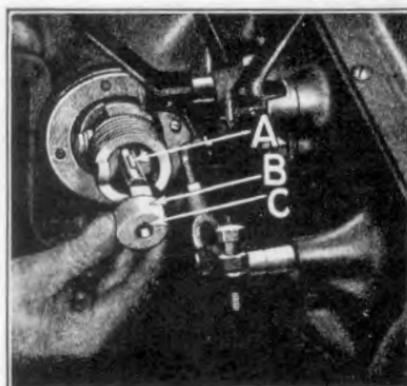
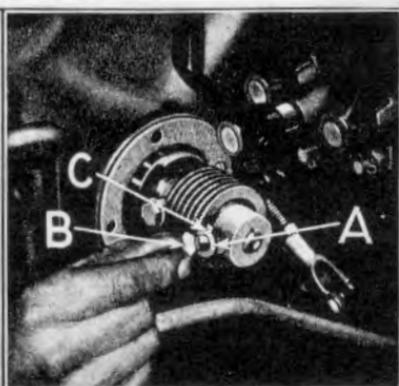

Fig. 448
Fig. 449
- 900 Position bendix on starting motor shaft, install bendix key in keyway on starting motor shaft (See "A" Fig. 448). Replace bendix head "B" by slipping it over starting motor shaft and lining up keyway "C" in head with key in shaft. The head is then pressed onto shaft until screw hole in head lines up with the hole in shaft. Lockwasher and screw are then installed by inserting lockwasher (See "A" Fig. 449) over end of bendix head spring screw "B" and running down screw into bendix head. The screw is locked in position by bending extension "C" on lockwasher tightly against head of screw.